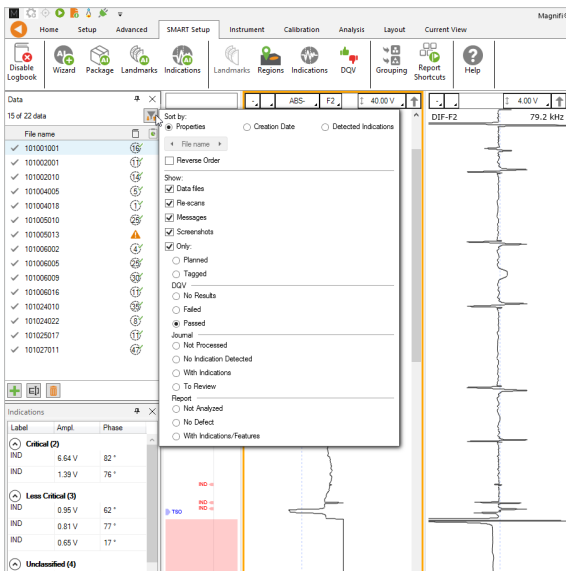

Figure 8: Filtering and sorting capabilities when AI-ECT detection is activated during analysis.
- Tube list sorting brings tubes with highest potential indications to the top as shown in Figure 8.
- Filtering displays or hides AI finding categories (no indication, with indications, data quality validation results, and others) as shown in Figure 8.